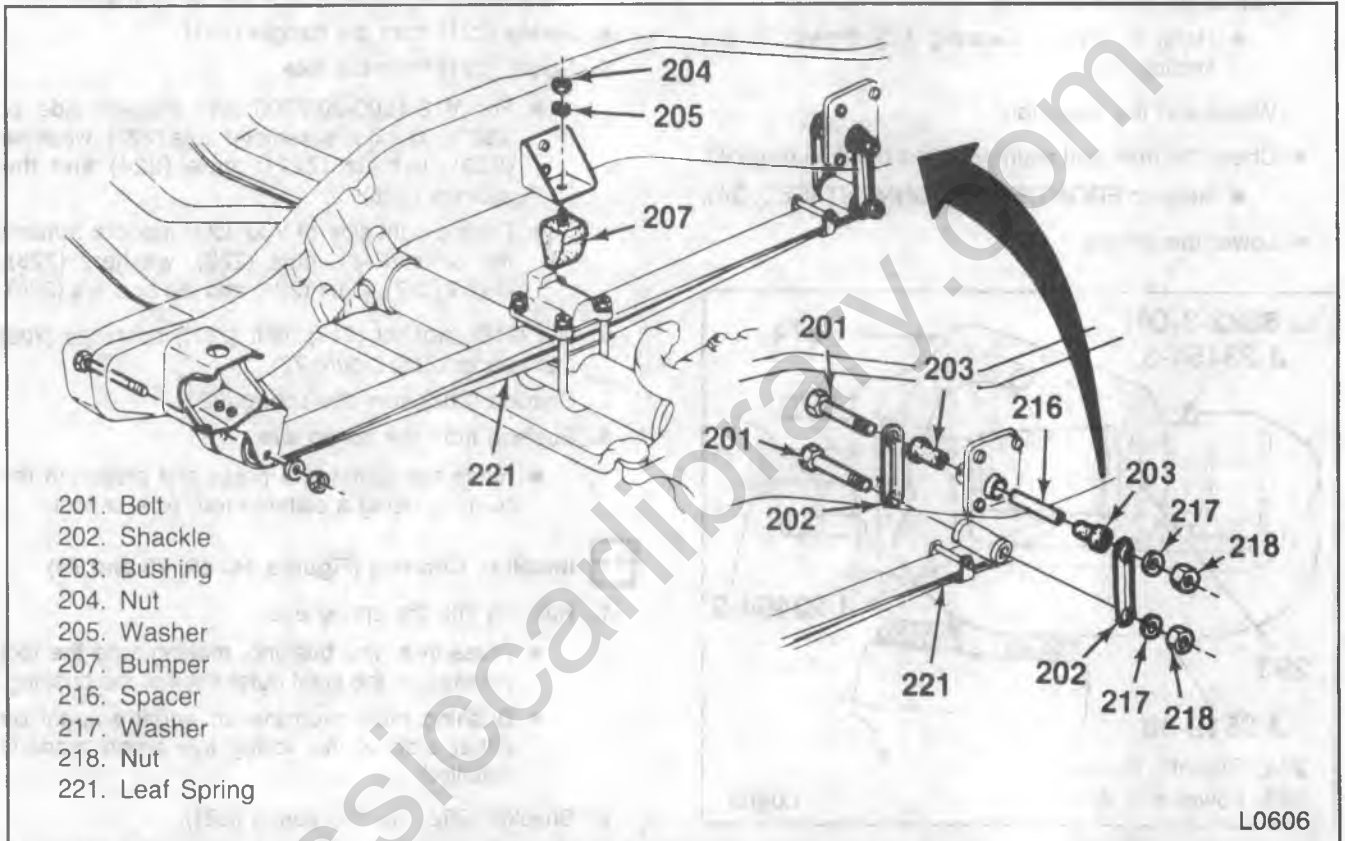

Figure 73 — Leaf Spring Attaching Parts
1. Nut (218), washer (217), shackle (202), bolt (201), bushings (203) and spacer (216) (figure 73).
2. Spring (221) from frame.
3. Nut (239), washers (240) and bolt (242) (figure 73).
4. Spring (221) from the hanger (241).
5. Spring (221) from the axle.
- For V10/1500-20/2500 and the left side of V30/3500 models, remove nuts (222), washers (223), U-bolts (227), plate (224) and the spacers (226).
- For the right side of V30/3500 models, remove the bolts (248), nuts (222), washers (223), U-bolt (227), plate (224) and the spacers (226).
6. Nut (218), washer (217), bolt (201), bushings (203) and spacer (216) (figure 73).
7. Shackle (202) from the spring (221).
- For V10/1500-20/2500 models and the left side of V30/3500 models, attach the lower spacer (226), plate (224), U-bolts (227), washers (223) and nuts (222) (figure 73).
- For the right side of V30/3500 models, attach the lower spacer (226), plate (224), U-bolt (227), washers (223), bolts (248) and nuts (222) (figure 73).